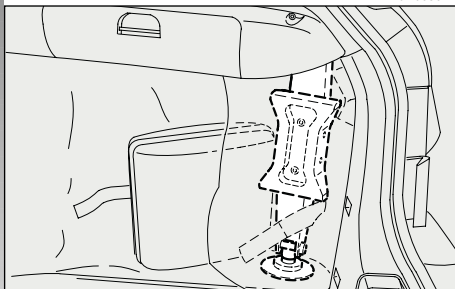

fig. 12
– take the jack out of the relevant container set on the right side of the boot (**fig. 12**);